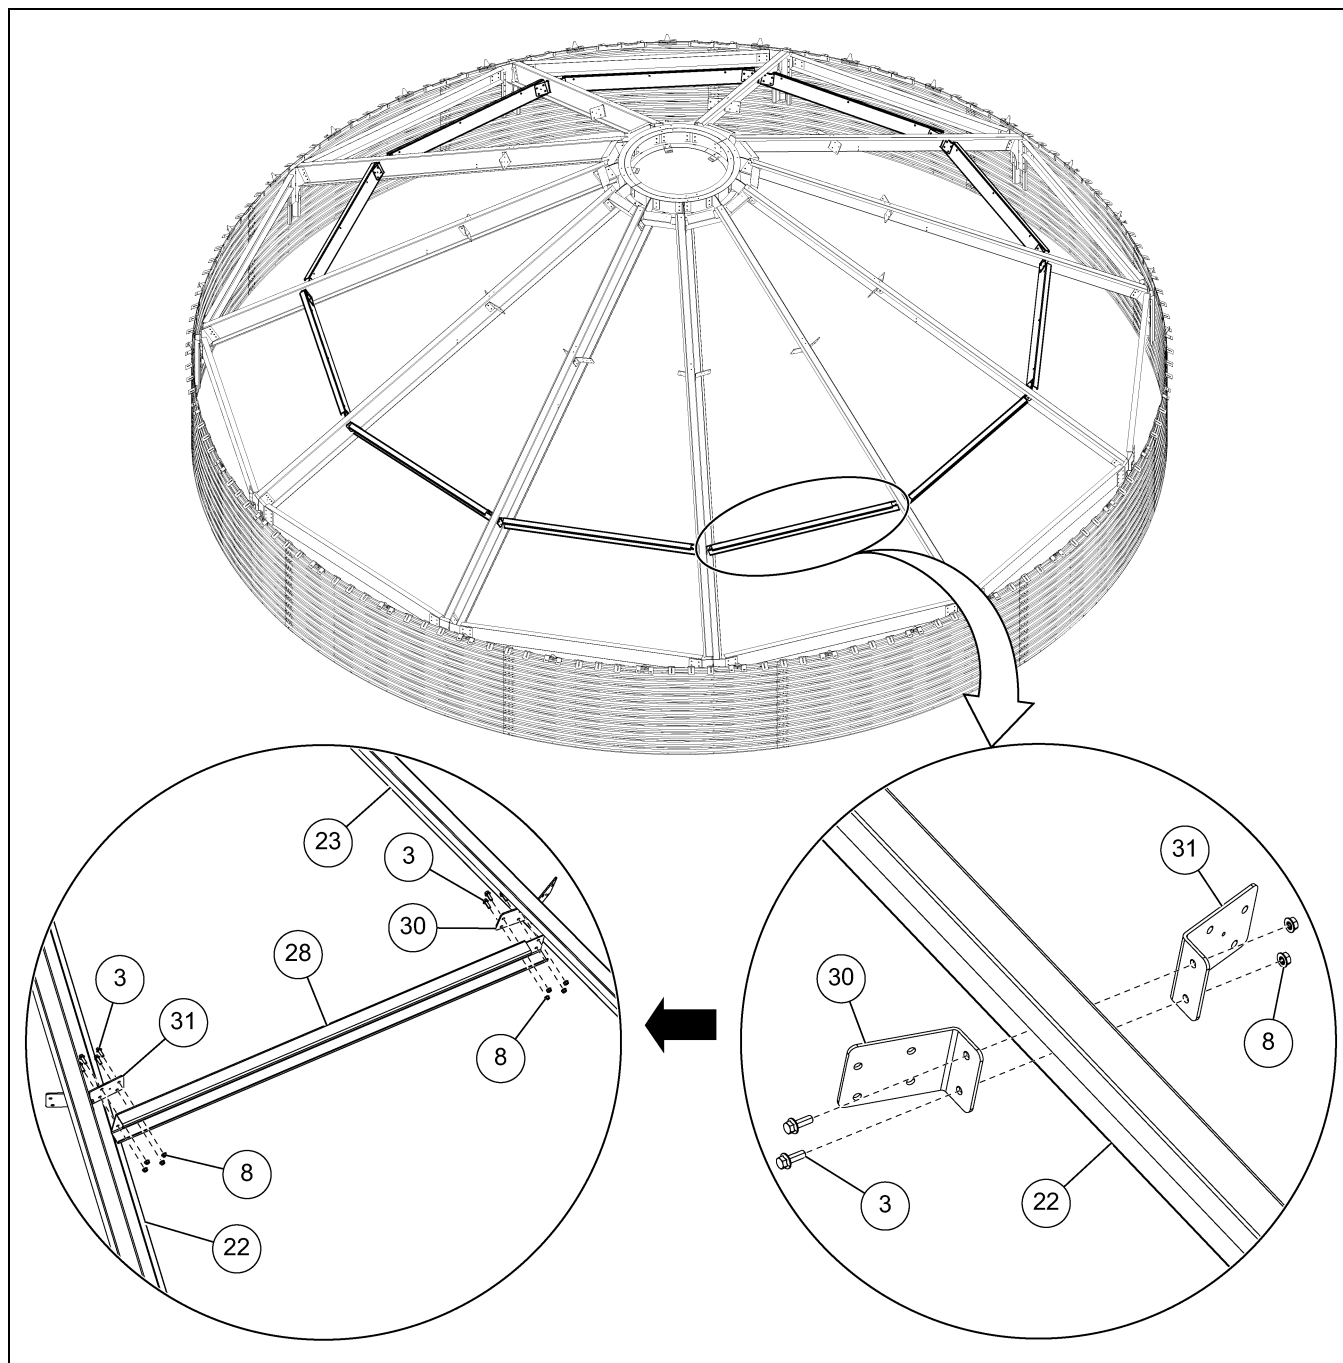

Figure 4M *Installing the Lower Purlin*
1. Attach a right purlin clip (30) and a left purlin clip (31) to the right side roof rafter (23) using three 7/16" x 1-1/4" flange bolts (3) and 7/16" flange nuts (8).
2. Attach a right purlin clip (30) and a left purlin clip (31) to the left side roof rafter (22) using three 7/16" x 1-1/4" flange bolts (3) and 7/16" flange nuts (8). \(See Figure 4M on Page 27.\)
3. Position the purlin (28) between the roof rafters (22 and 23) and install to the left and right purlin clips (30 and 31) using eight 7/16" x 1-1/4" flange bolts (3) and 7/16" flange nuts (8).